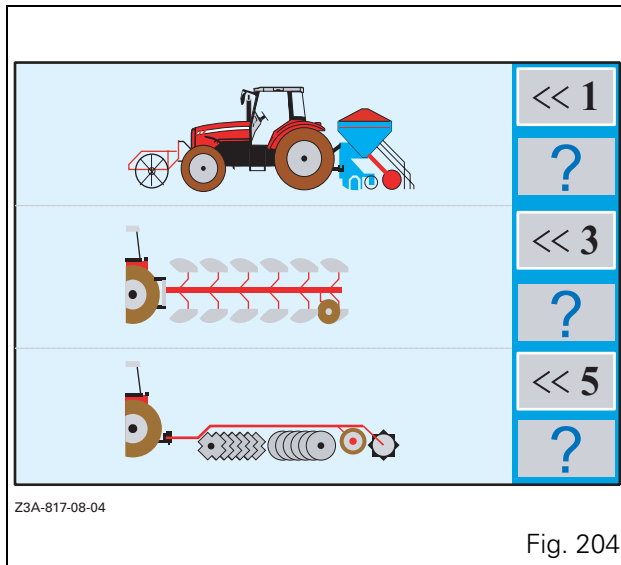
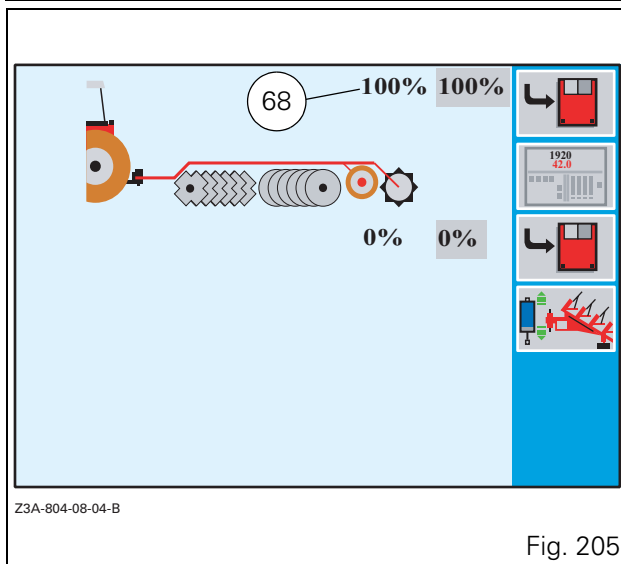

Fig. 204
Fig. 205
When the window (Fig. 204) is open, press the key <<5. The window (Fig. 205) is displayed.
When the spool valve control is actuated, the high position value varies (68 Fig. 205).
- For this, press the key <<3 when the window (Fig. 205) is open. The window (Fig. 208) is displayed.
To return to the window (Fig. 205), press the key <<5 when the window (Fig. 209) is open and the icon (71 Fig. 209) is green.